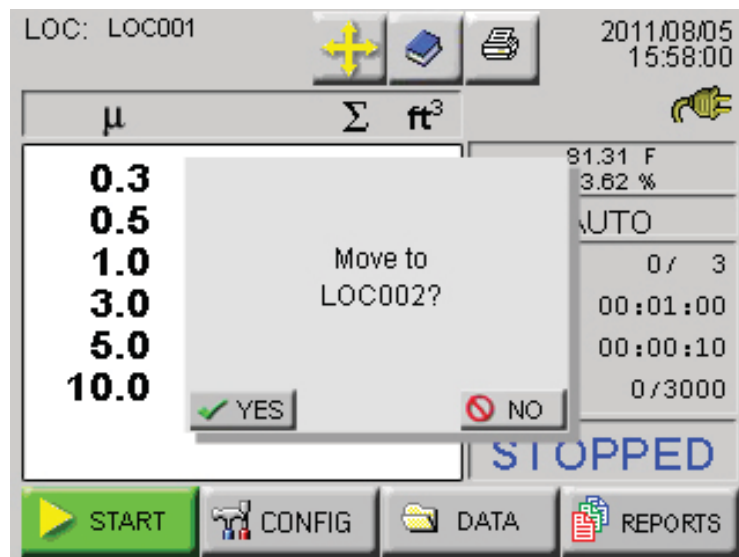

Figure 6-73 Auto Increment Prompt
- The user is prompted to move to the next location after the programmed number of cycle. See Figure 6-73.